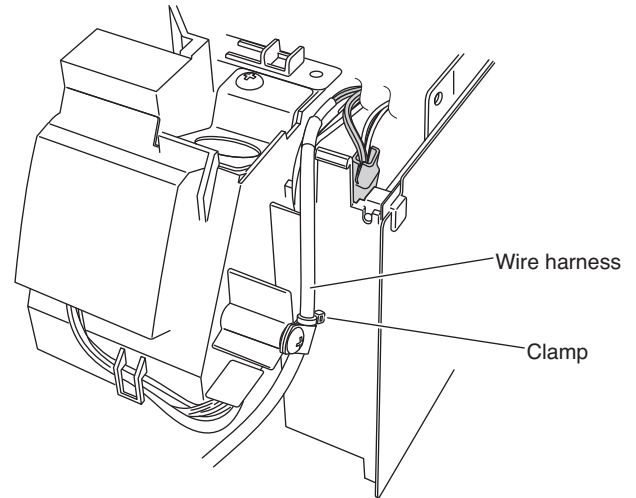

Fig. 8
(10) In order to prevent pulling on the harness, fasten the part immediately above the strap with a clamp. (Fig. 8)